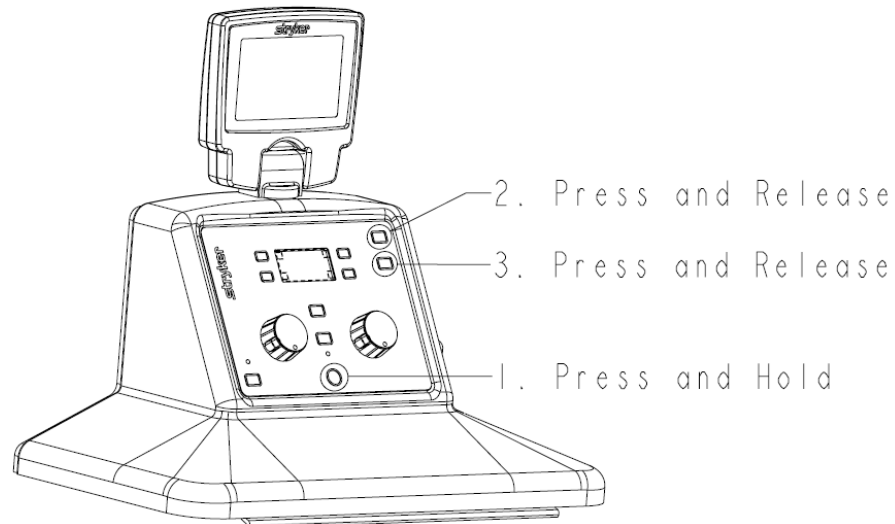

Figure 3: Accessing the Technician Menu
- c. To access the technician menu from the system settings menu, hold down the Vacuum System power button, then press and release the IV Pole UP button, and finally press and release the IV Pole DOWN button. (see figure 3)